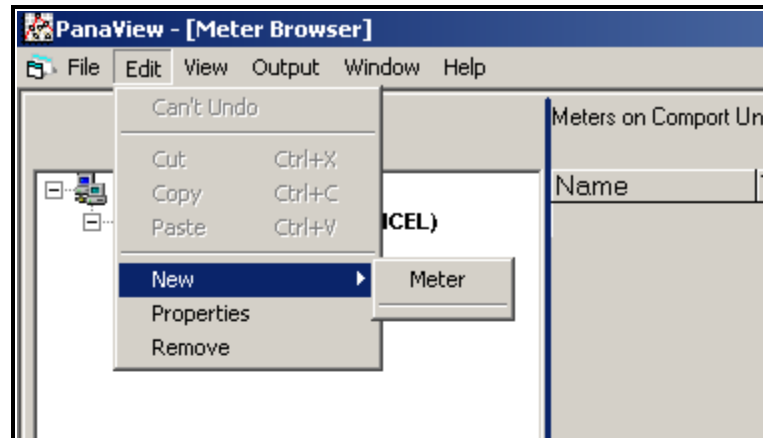

Figure 20: *"New"* Option in the *"Edit"* Menu
2. Click on the *"New"* option in the *"Edit"* menu (see Figure 20).